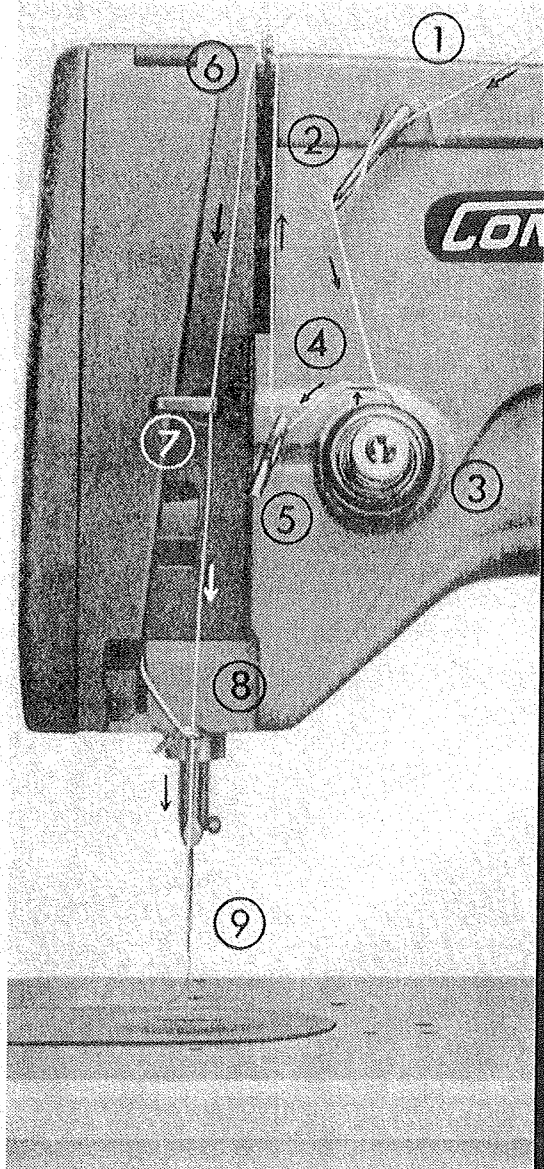

Fig. 8.
To pass the needle thread, follow the numerical order as shown in Fig. 8. Start from the needle thread guide pin ①, (not shown in Fig. 8), to the needle ⑨ in order. (Refer to Fig. 2 for complete view)
- ② Three-hole thread eyelet
- ③ Tension disc
- ④ Take-up spring
- ⑤ Thread take-up guide
- ⑥ Thread take-up
- ⑦ Frame thread guide, upper
- ⑧ Frame thread guide, lower
- ⑨ Needle